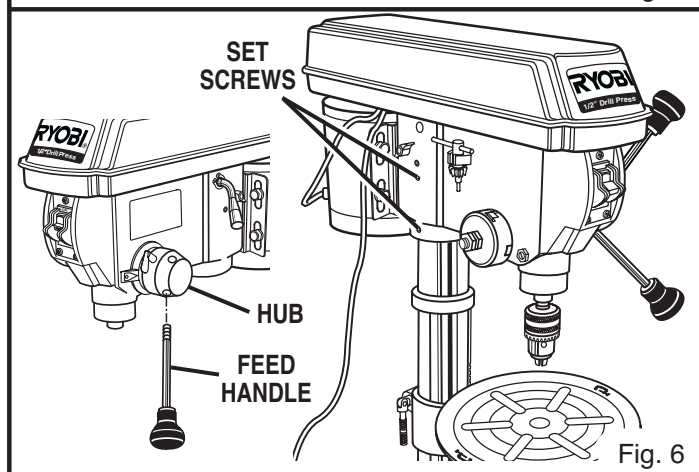

Fig. 6
See Figures 6 and 7.
- Attach the three feed handles by screwing them into the threaded holes in the hub. Tighten using a wrench on the flats on the feed handles. See Figure 6.